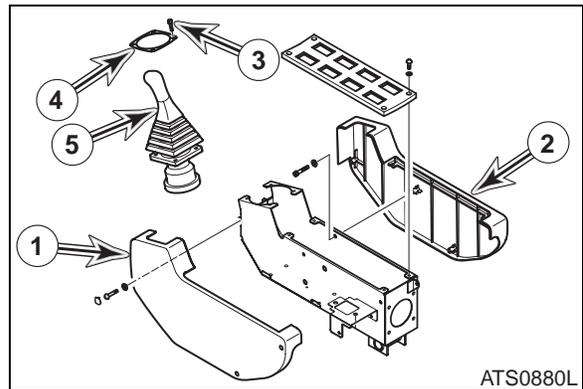

Figure 38
3. Install plate and four socket bolts top secure joystick (5, Figure 38) valve to control stand bracket.
4. Install left and right control stand case (1 and 2, Figure 38).